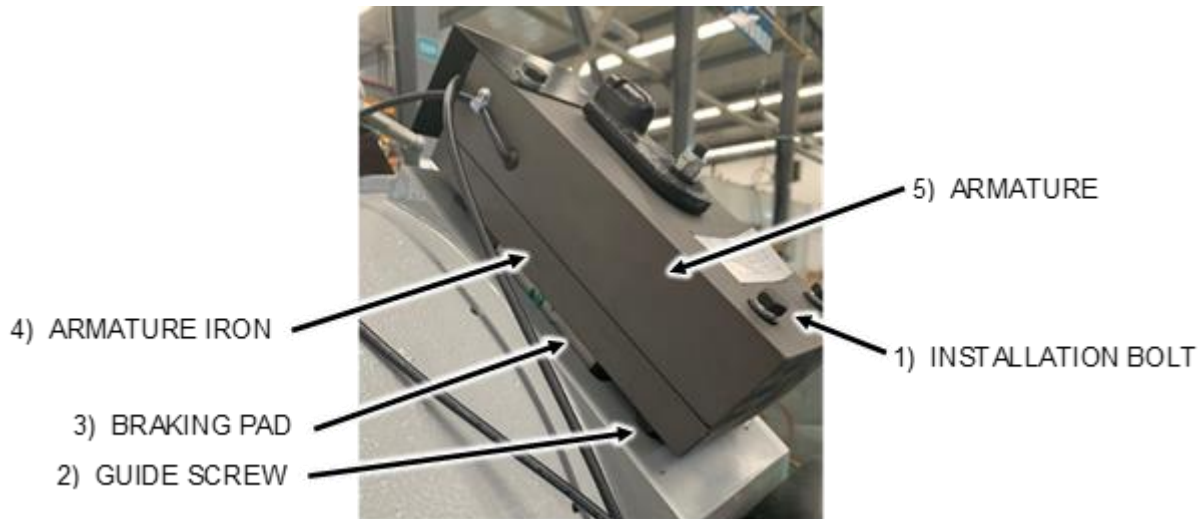

Figure 33
7. Adjust the guide screw sleeve of guide screw 2 and the mounting bolt of insulation bolt 1, so that the air gap between the armature of armature 5 and the armature of armature iron 4 is between 0.012" (0.30 mm) to 0.022" (0.55 mm), the gap between the brake belt and the brake wheel is 0.004" (0.10 mm) to 0.006" (0.15 mm), and the distance between the guide screw sleeve of guide screw 2 and the iron surface of armature iron 4 is about 0.197" (5 mm). no less than 0.118" (3 mm) under any conditions, as shown in Figure 33.